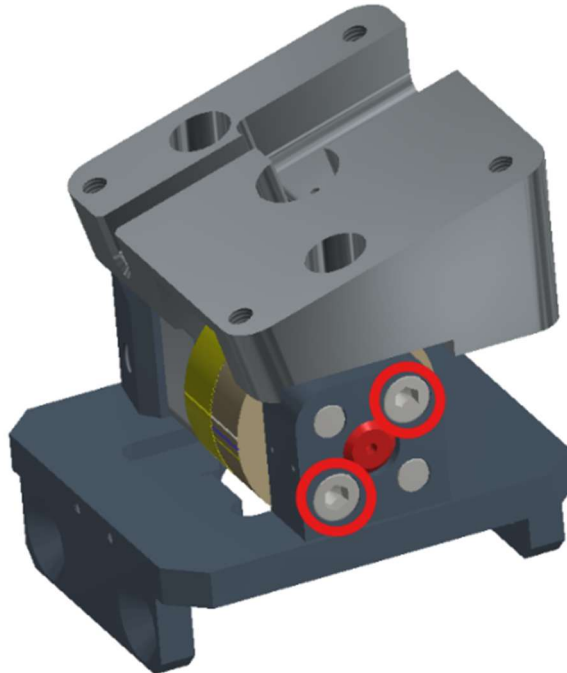

Figure 6-11. Remove four M5 Neck Pitch Change Screws (472-3638) from the Neck Posture Adjustment Base Plate (474-3051)
- 6.2.4 Remove four M5 Neck Pitch Change Screws (472-3638) from the Neck Posture Adjustment Base Plate (474-3051) (Figure 6-11).